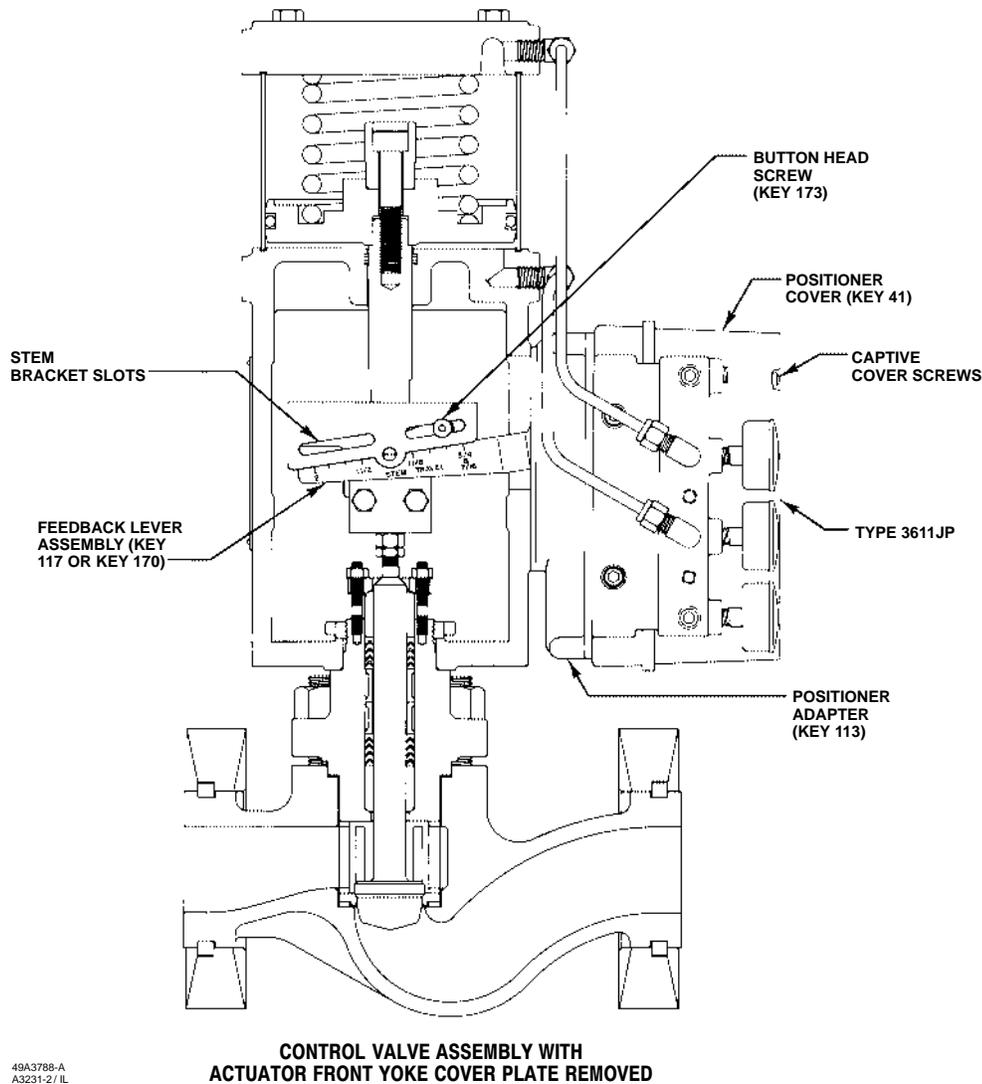

Figure 4. Typical Mounting Details for Type 3611JP and 3621JP Positioners on 585 Series Actuators
Refer to figure 4 for part locations. Refer to figure 29 for key number locations unless otherwise indicated.
7. Attach the roller (key 175) and washers (key 184) to the adjuster assembly (key 174) and secure with the retaining ring (key 172).
9. Install the positioner on the actuator so the feedback lever assembly (key 170) is under the stem bracket and secure the positioner to the adapter (key 113) with the four socket head screws (key 54).
10. With the actuator still at mid-travel and the top edge of the feedback lever assembly perpendicular to the actuator stem, install the adjuster assembly/roller in the appropriate stem bracket slot with the button head screw (key 173) so the roller is centered over the correct actuator travel marked on the feedback lever assembly (key 170) as shown in figure 4.